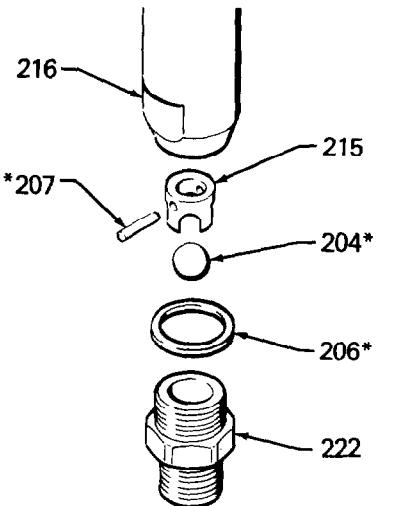
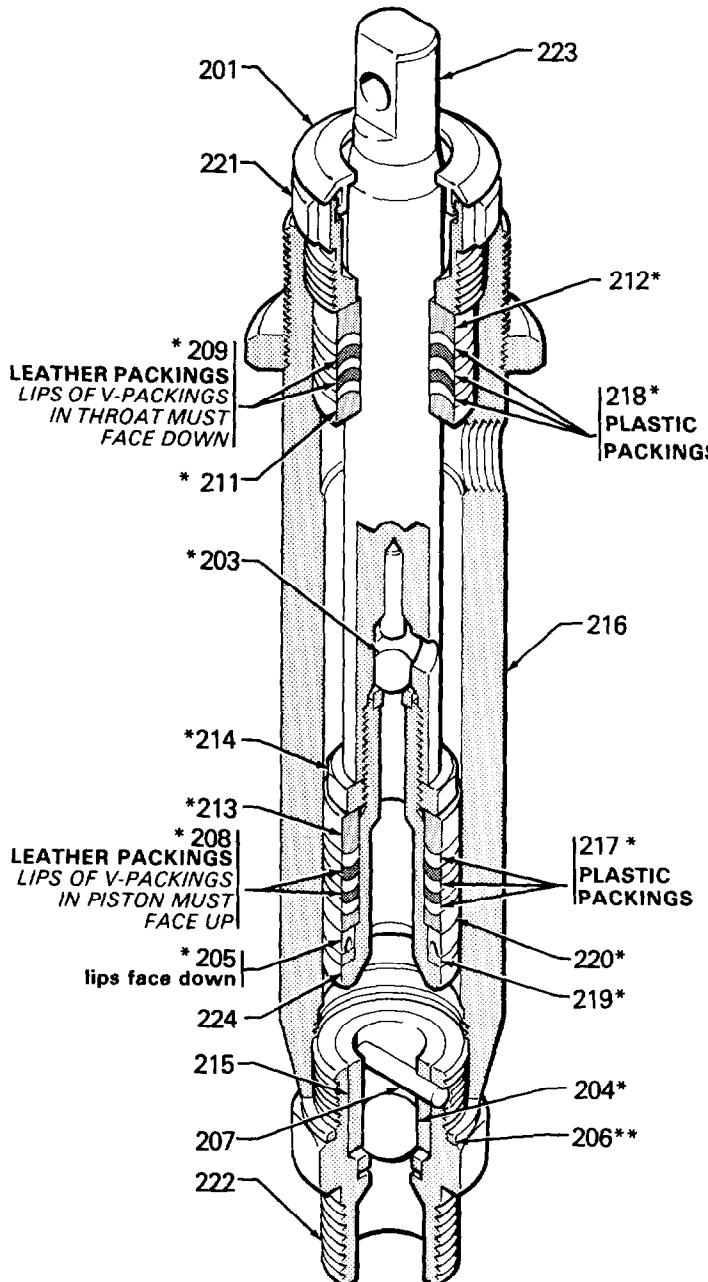
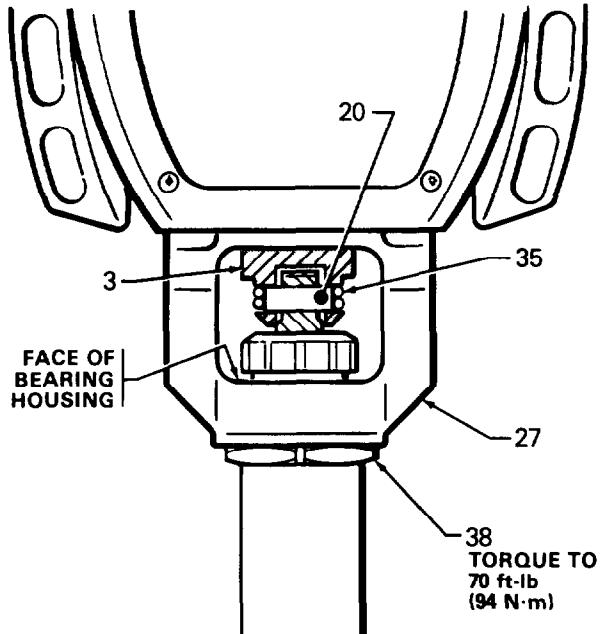

Fig 9
Fig 10
Fig 13
#### Disassembling the Pump (Refer to Figures 9 and 10.)
8. Stack the male gland (211\*), packings (218\*, 209\*) and female gland (212\*), one at a time, into the top of the cylinder. See Fig 10.
9. Install the throat packing nut (221) and plug (201) but leave loose for now.
10. Insert the piston rod (223) through the bottom of the pump cylinder, pushing it up until the top of the piston rod extends 1-7/8" (32.2 mm) beyond the top of the cylinder. See Fig 10.
11. Screw down the cylinder locknut (38) until it is finger tight at the bottom of the external cylinder threads.
12. Place flats of the intake valve in a vise. Install a new gasket (206\*) and screw the pump cylinder into the valve. See Fig 9.
13. Screw the displacement pump about 3/4 of the way into the bearing housing (27). Hold the pin (20) up to the pin hole in the connecting rod assembly (3) and continue screwing in the pump until the pin slides easily into the hole. Back off the pump until the top threads of the pump cylinder are flush with the face of the bearing housing and the outlet nipple (46) is straight back. Push the retaining spring (35) into the groove all the way around the connecting rod. Tighten the locknut (38) very tight—about 70 ft-lb (94 N·m)—with a 2 in. open-end wrench and a light hammer.
Be sure the retaining spring (35) is firmly in the groove of the connecting rod, *all the way around*, to prevent it from working loose due to vibration. See Fig 13.